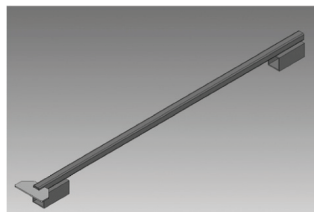

Figure 2
(PN:24006259) (Figure 2)
4. Slide the cross member element (Figure 2) onto the assist mount assembly installed in Step 2 above, then slide the remaining assist mount assembly onto the opposite end of the cross member element (Figure 4). Make sure the orientation of the cross member element is as shown in Figure 5. The cross member element fits between the inside rails of the sleep surface. When installed correctly, there will be a small gap between the cross member tube and the sleep surface rails (Figure 6).